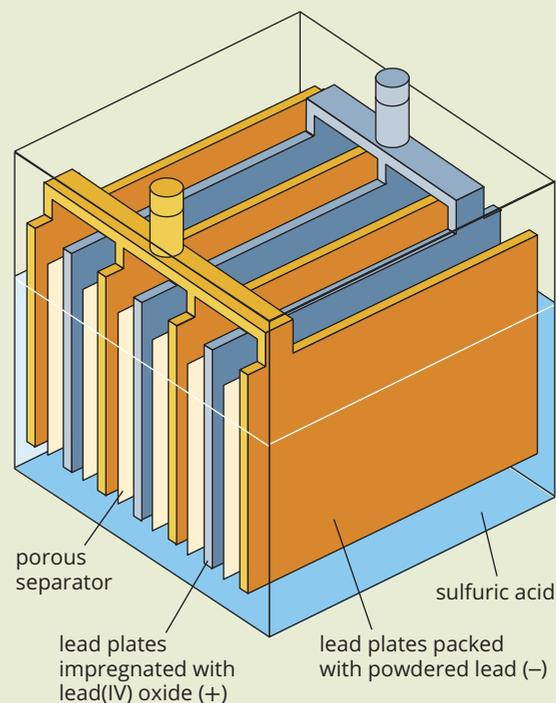

FIGURE 9.2.5 Construction of a lead–acid battery
As shown in the diagram in Figure 9.2.5, a modern lead–acid battery is actually six separate cells connected together in series. The positive electrodes consist of lead plates packed with lead(IV) oxide (PbO_2), and the negative electrodes consist of lead plates packed with powdered lead. A solution of sulfuric acid, of about 4 M concentration, acts as the electrolyte.